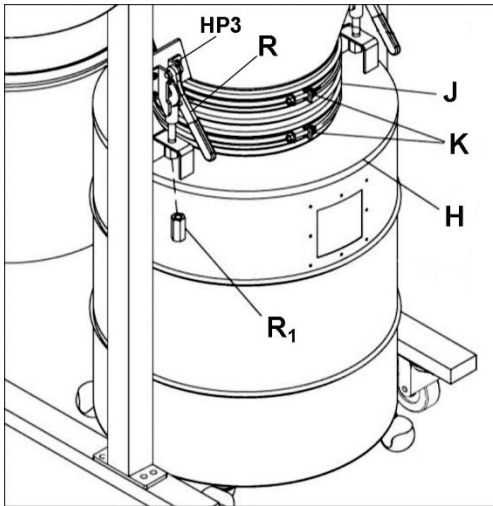

Figure 12
17. Install quick levers into threaded holes on cone flanges, using screws (HP3). See Figure 12
18. Install hose (J) onto cone and drum lid and secure with two hose clamps (K), at top and bottom. See Figure 12.
21. Pull down both quick levers (Q, Figure 12) then assemble drum lid (H, Figure 12) to quick levers. Tighten long nut (Q1, Figure 12) onto each quick lever.